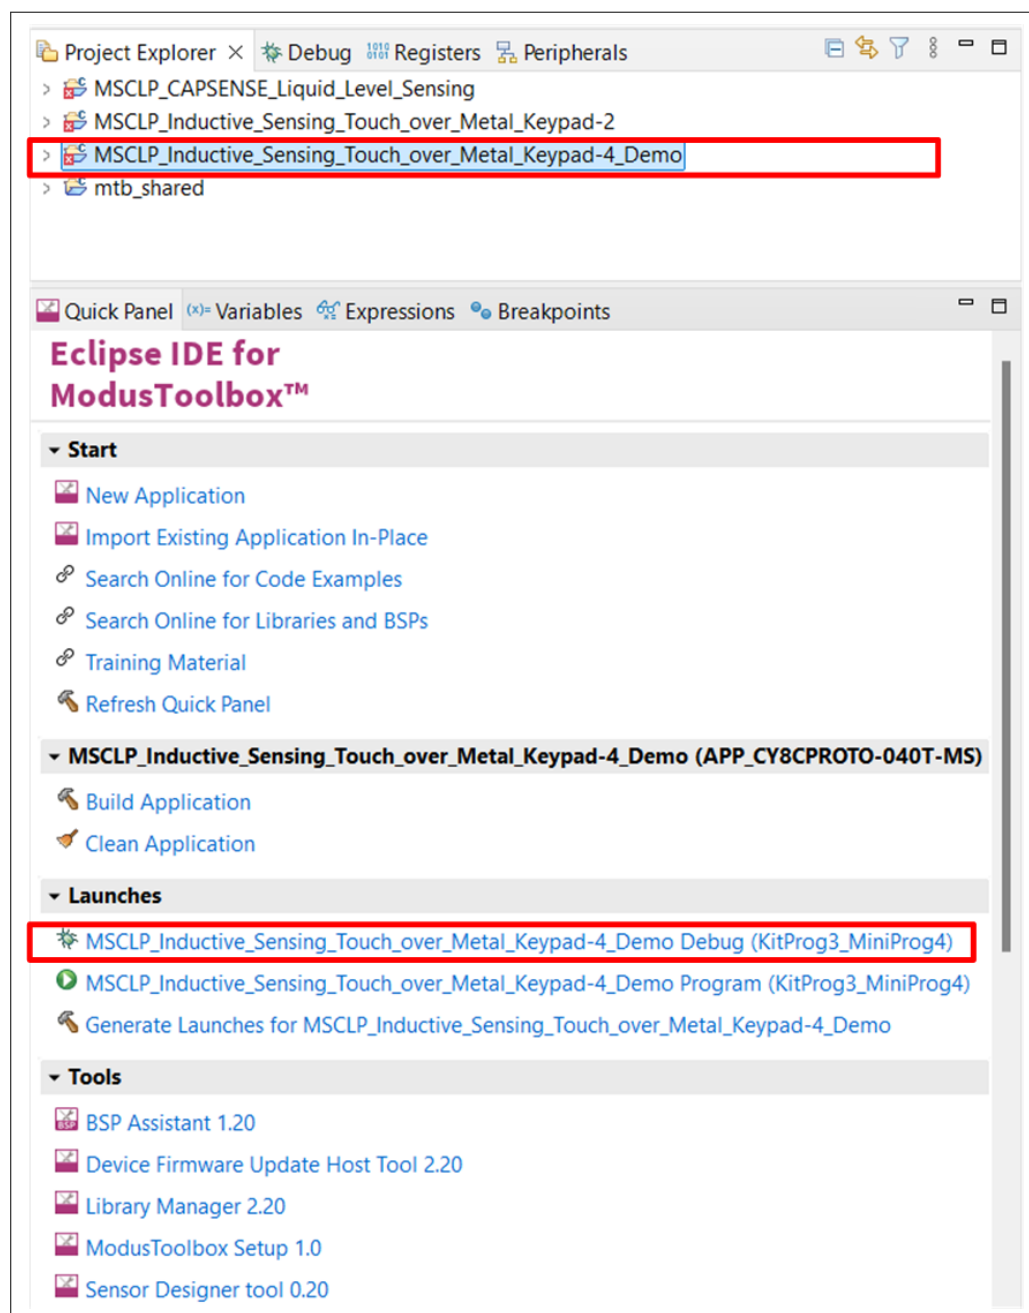

Figure 18 Debugging the code example
- b. In the **Quick Panel**, scroll to the **Launches** section, and click the **<App_Name> Debug (KitProg3_MiniProg4)** configuration, as shown in Figure 18